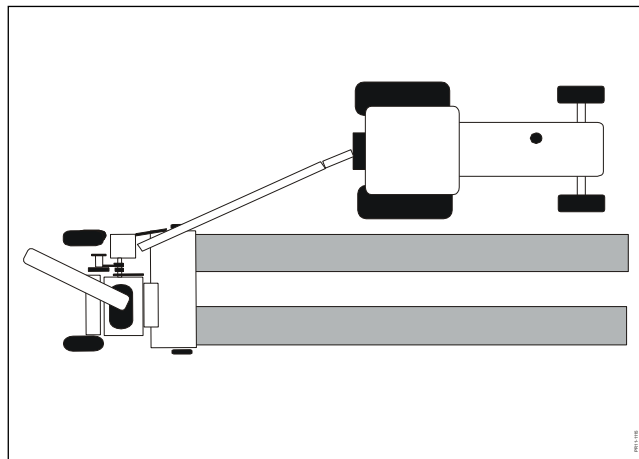

Fig. 5-7
- Fig. 5-7** 1) The chopper picks up grass beside the tractor, working offset. The machine can pick up wide single swaths and double swaths, which are very suitable for the chopper. A good driving technique when loading into a trailer at the right-hand side of the chopper.